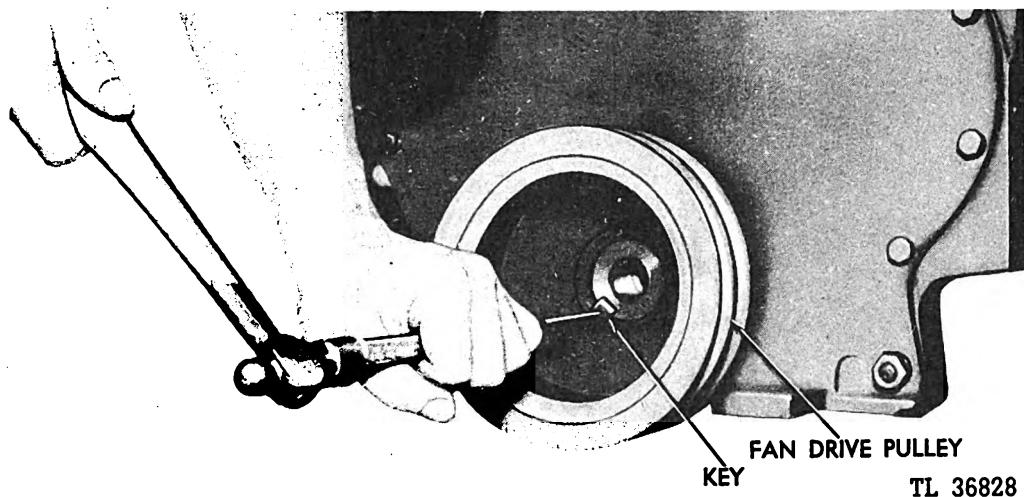

Fig. 176. Installing Crankshaft Fan Drive Pulley
*m. Installing Crankshaft Pulley.* Install the crankshaft pulley. Line up the key and keyway and drive it in, as shown in Figure 176, and screw on the crankshaft jaw.